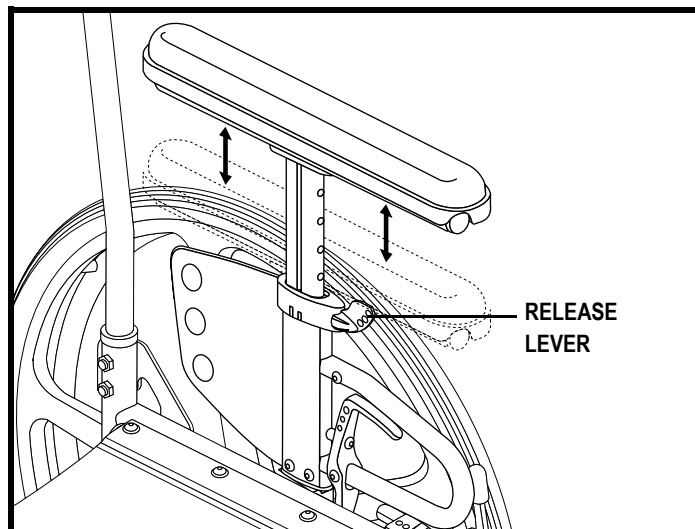

Figure 33. Drop-in Armrest Height Adjustment
1. Pull back the release lever located on the armrest. See figure 33.